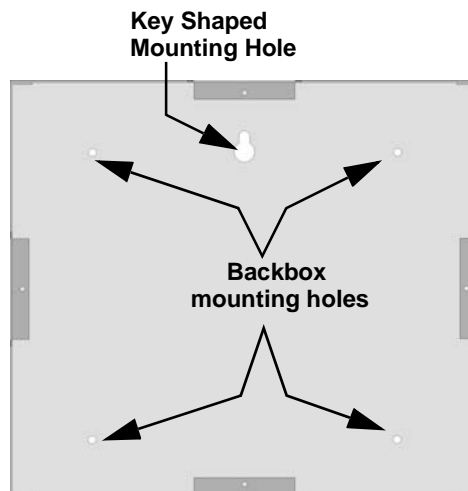

Figure 4-28 Backbox Surface Mount Holes
- To properly mount the backbox, insert a single screw into the key shaped mounting hole. Do not tighten all the way. See Figure 4-28.